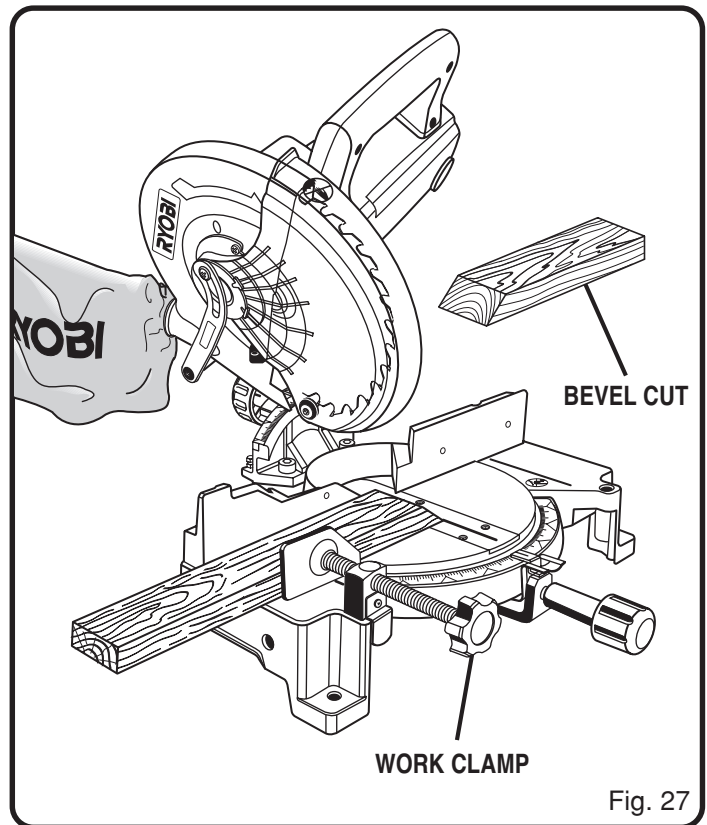

Fig. 27
- Grasp the stock firmly with one hand and secure it against the fence. Use the optional work clamp or a C-clamp to secure the workpiece when possible. See Figure 27.
- Slowly lower the blade into and through the workpiece. See Figure 27.